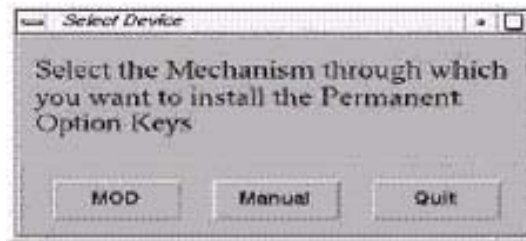

Figure 10-20 Select Device window
- 6.) Click PERMANENT. A Select Device (Figure 10-20) window opens. Select the mechanism through which you want to install the Permanent Option Keys.
Note: The Select Device illustration in Figure 10-20 is outdated — the new window displays selections for MEDIA, Manual, and Quit. Screen requires an update.